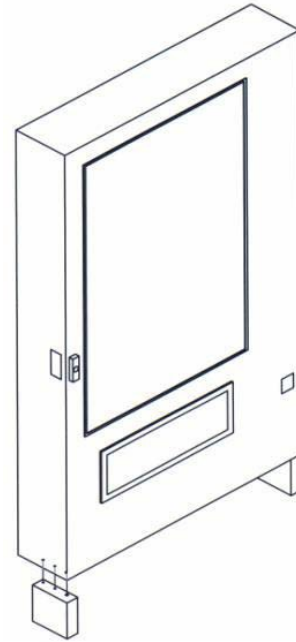

Figure 4.2 False Leg Installation
The False Leg helps to prevent the machine from tipping forward when the vendor door is open and one or more bottle trays are extended. Failure to install the false leg on vendors with bottle trays may result in serious injury (Refer to Figure 4.2).
1. Align the holes in the top of the false leg with the 1/8" holes on the left side of the bottom of the door (Refer to **Figure 4.2** below). The closed end of the false leg should be facing forward.